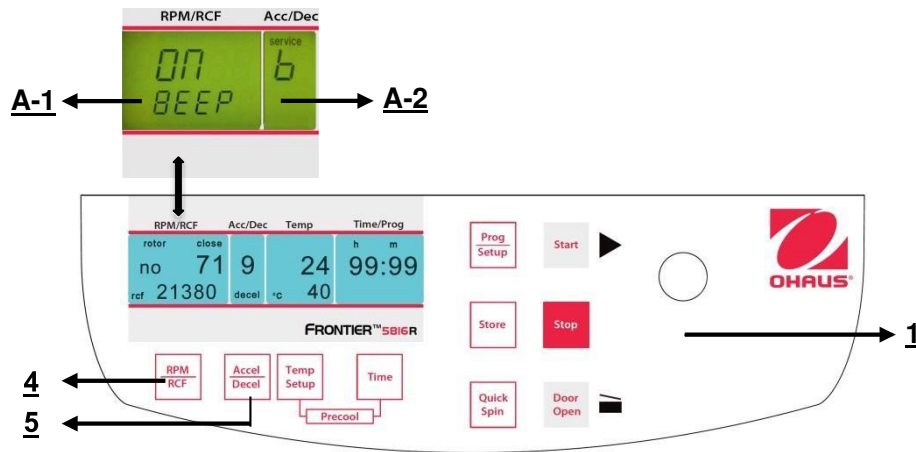

Figure. 38
Proceed as described under point 4.1.1 to enter this program mode and then press the key **"Accel/Decel"** (5). In the display **"Acc/Dec"** (A-2) the word **"Service"** flashes. Now select the letter **"B"** with the adjusting knob (1). As a result, in the display **"RPM | RCF"** (A-1), the word **"ON/BEEP"** appears. After pressing the key **"RPM | RCF"** (4), you can turn the keyboard sound (On) or (Off) with the adjusting knob (1). (See figure 38).